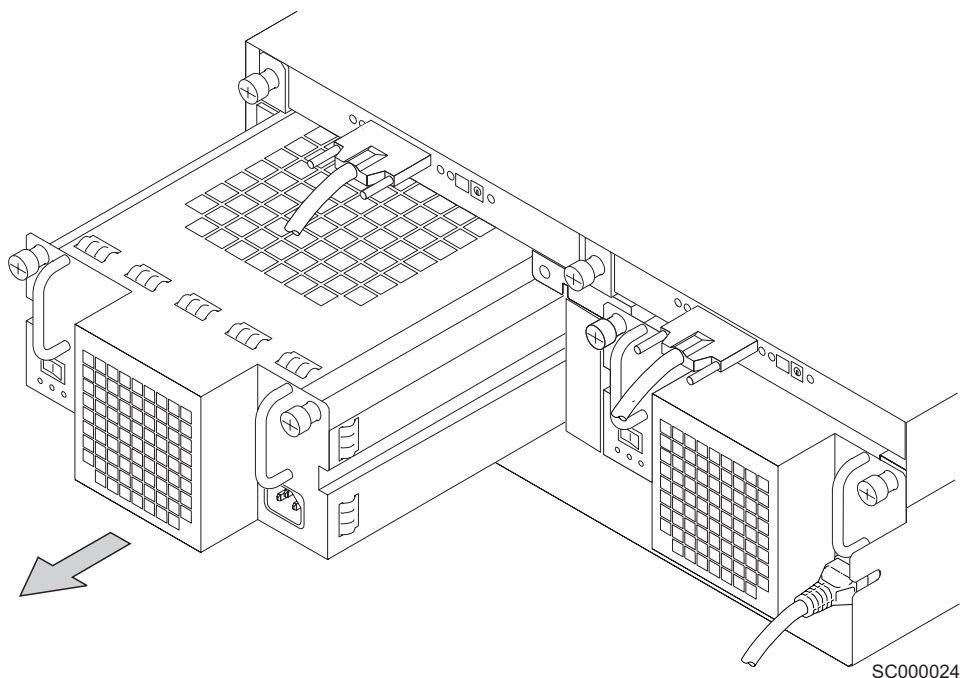

Figure 59. Removing a fan-and-power-supply assembly
8. Remove the fan-and-power-supply assembly, as Figure 59 on page 74 shows. The fan-and-power-supply assembly is a complete FRU. Do not try to repair or exchange any part of it.